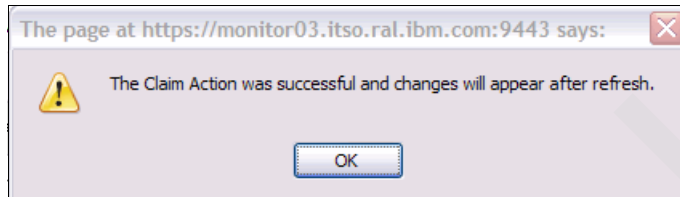

Figure A-107 Successful action message
3. In the message window (Figure A-107) that indicates that the claim action was successful, click **OK**.